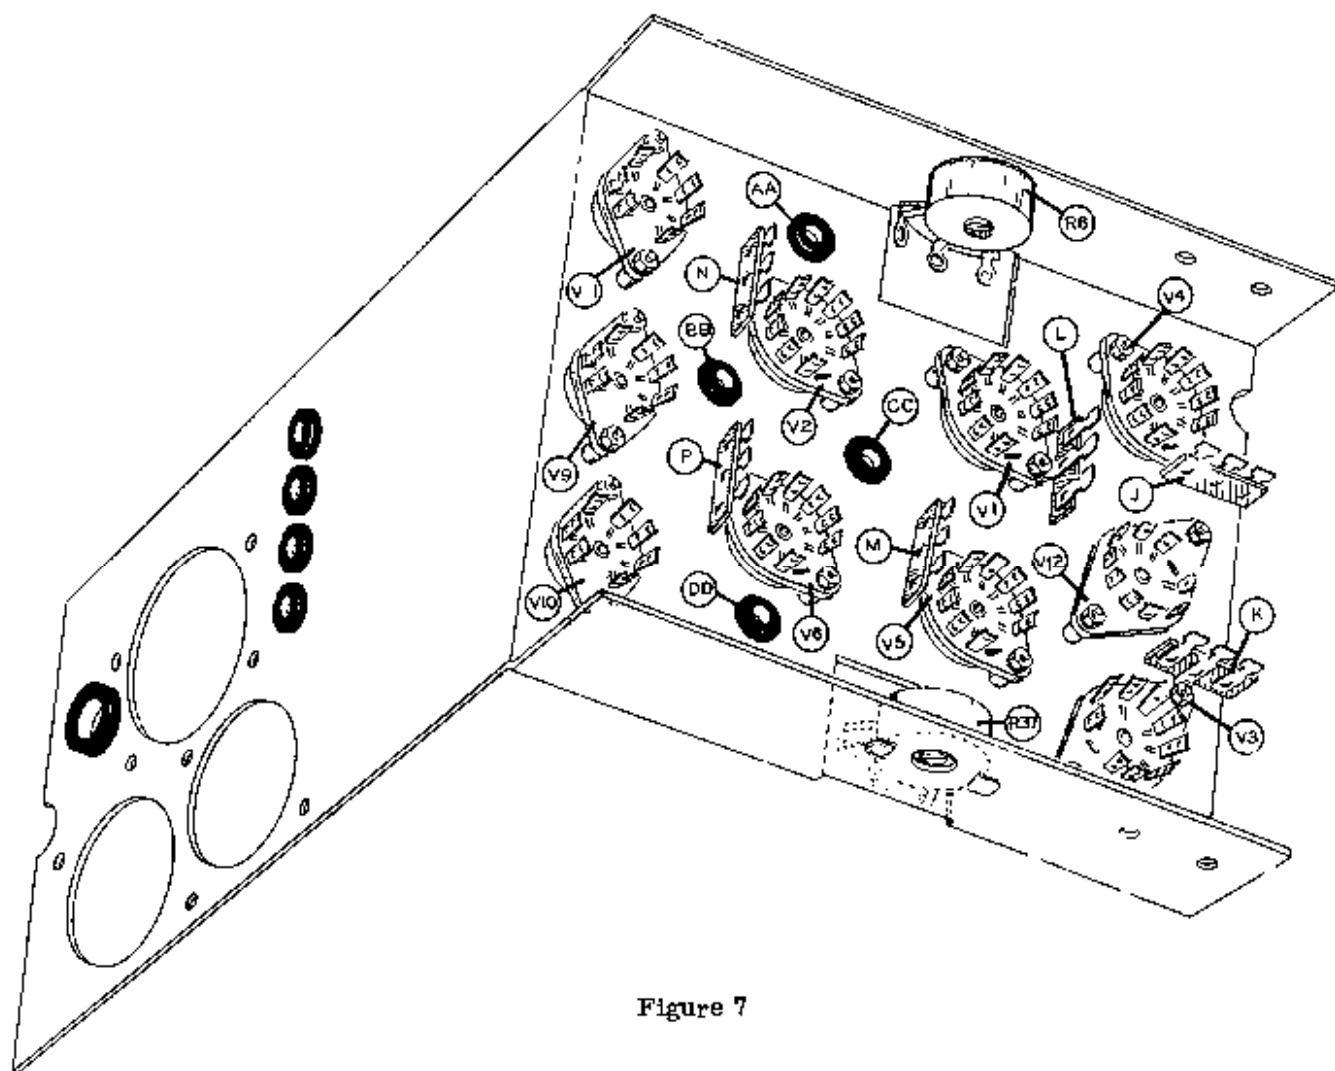

Figure 7
Refer to Figure 7 for the following steps.
- (✓) Locate the chassis, orient as shown, and install the four 5/16" rubber grommets AA, BB, CC and DD. See Figure 7.
NOTE: Be sure that the blank spaces in all tube sockets face in the directions shown in Figure 7.
- (✓) Cut off the end of each lug of a 9-pin tube socket as shown in Detail 7B. Now mount this socket, V12, as shown in Figure 7.